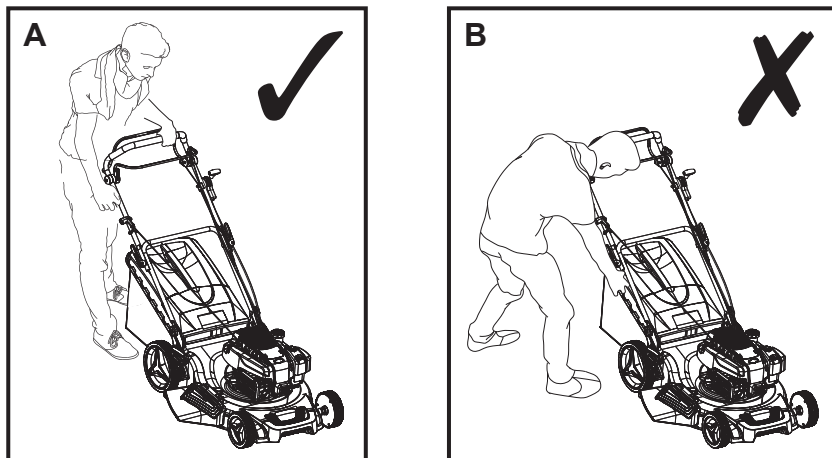

Fig. 15
AVERTISMENT! POZIȚIA DE PORNIRE AR TREBUI SĂ FIE CONFORMĂ CU DESCRIEREA DIN MANUALUL DE INSTRUCȚIUNI. FIG. 15 A ILUSTREAZĂ POZIȚIA DE PORNIRE DESCRISĂ. OPERATORUL TREBUIE SĂ PORNEASCĂ MOTORUL STÂND ÎN SPATELE MÂNERULUI DE PRINDERE (1). NU PORNI MOTORUL CÂND STAI ÎN LATERALUL MAȘINII – CUM SE VEDE ÎN FIG. 15 B.